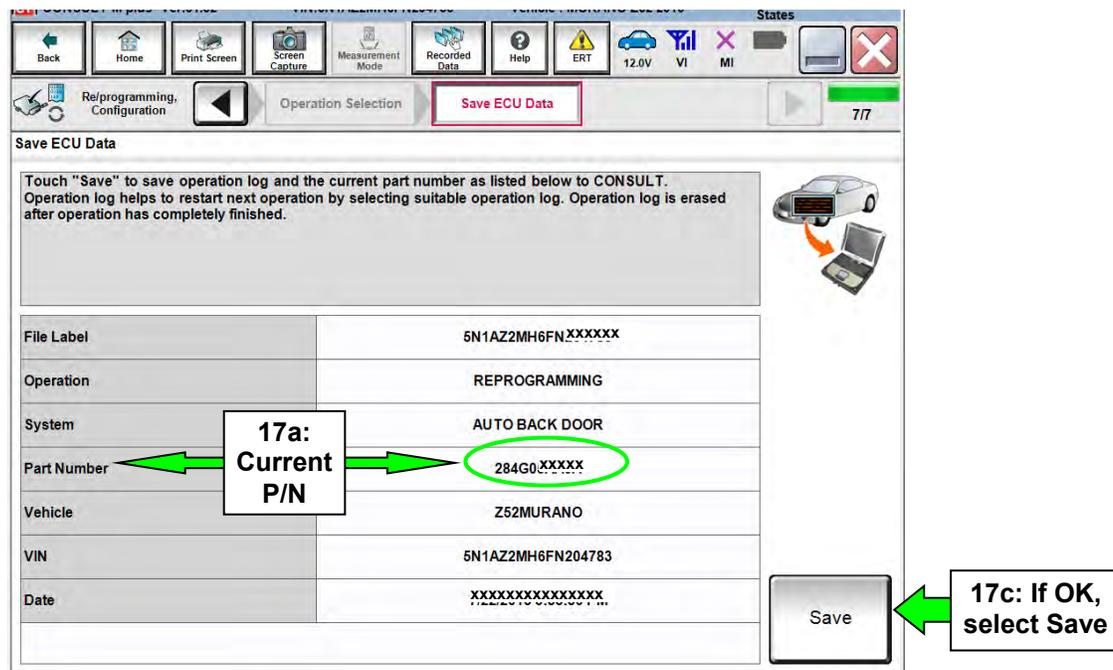

Figure 8
17. When you get to the screen shown in Figure 8, confirm reprogramming applies as follows: